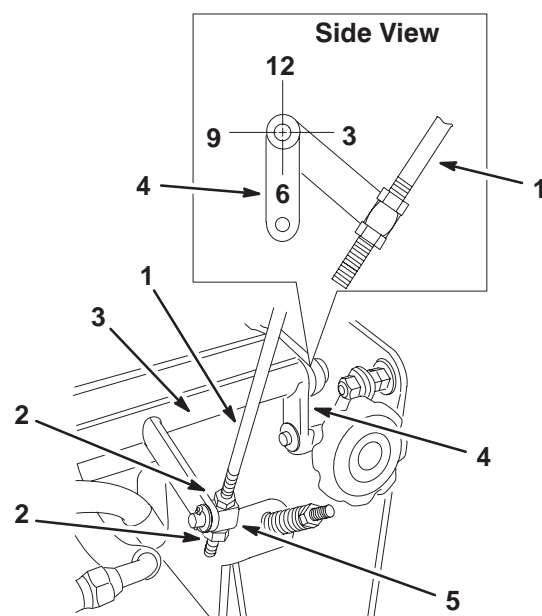

Figure 48
4. Check the orientation of the tabs on the ends of the speed control crank. These tabs should approximately be pointing straight down at the 6 o'clock position (Fig. 48).
5. If adjustment is needed, loosen the nuts on both sides of the swivel on the speed control rod (Fig. 48).
6. Adjust the swivel, until the tabs are at the 6 o'clock position (Fig. 48).
7. Tighten the nuts on both sides of the swivel (Fig. 48).
10. If needed, adjust the swivel on the speed control rod to center the shift lever travel (Fig. 48).